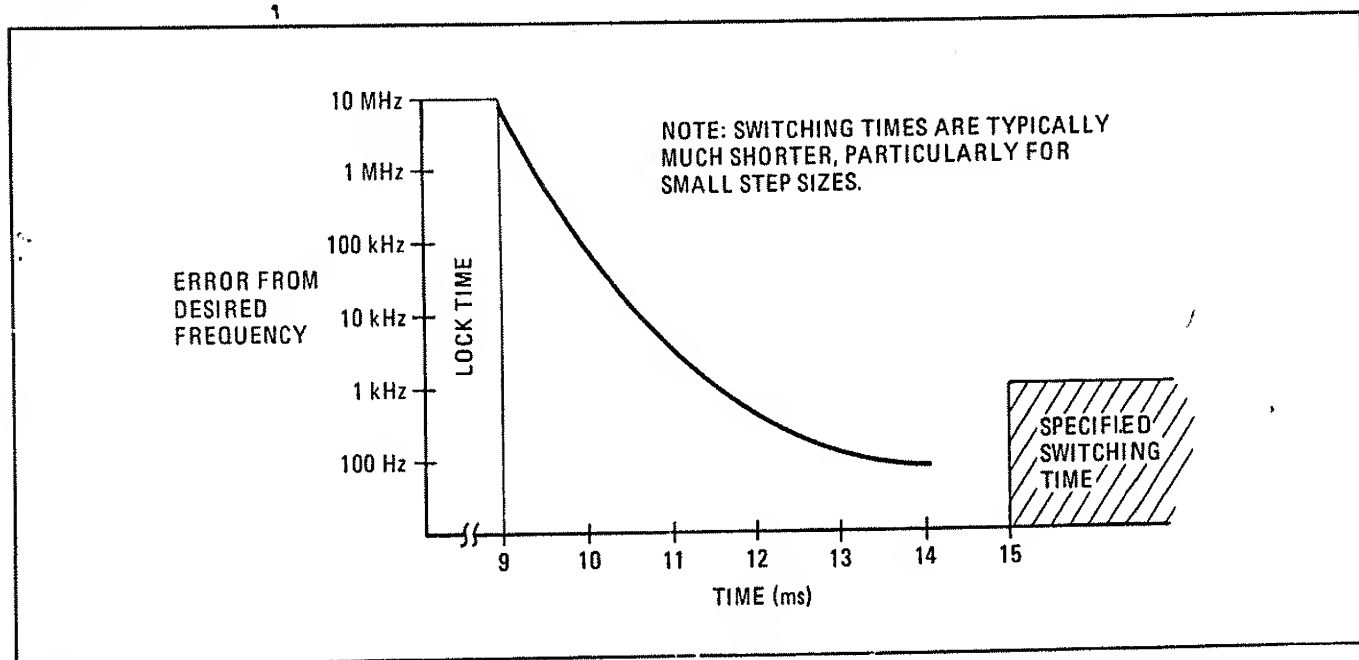

Figure 3-6. Typical frequency switching time showing WORST CASE lock and settling times
**a. Frequency Switching.** The time it takes to switch from one frequency to the next depends on the largest frequency digit being changed. Generally, the smaller the digit being changed, the shorter the switching time. Typical switching times by largest digit being changed on the 2.0 to 6.2 GHz band are shown in Figure 3-6 below. For higher bands, actual digits being changed must be determined by dividing the output frequency by 2 (6.2 to 12.4 GHz band), or by 3 (12.4 to 18 GHz band). If FM is on during a frequency change, switching time will increase.